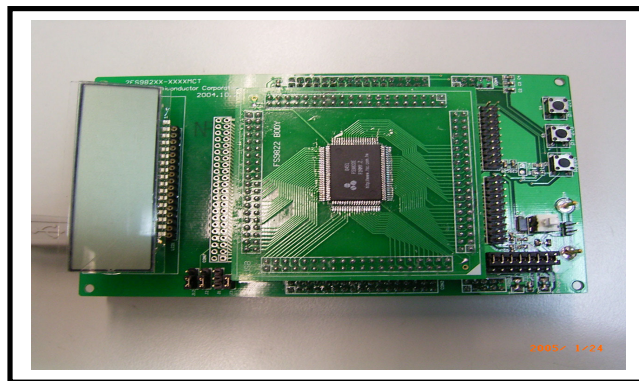

Figure 2.6 Complete Hardware Systems
(2) Connection of Board: Connect the FS Control Board, FS982X Emulation Board and Transfer Board by pin to pin, as shown the Figure 2.6.
(3) USB Connection: Use USB wire to connect the FS Control Board and PC.